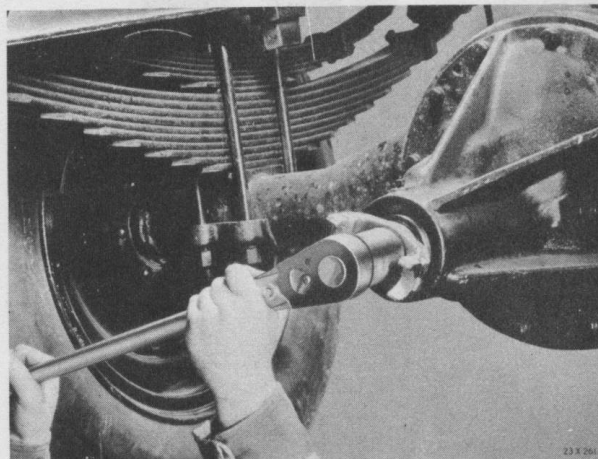
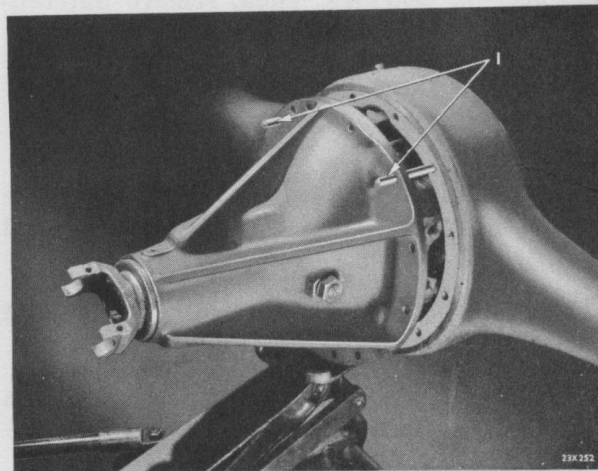

Fig. 34—Removing Drive Pinion Yoke Nut Before
Fig. 35—Removing Differential Carrier Assembly
- (1) Drain differential lubricant.
- (2) Disconnect rear universal joint and drop the propeller shaft.
- (3) If the drive pinion is to be removed, remove the cotter pin and loosen the nut which holds the universal joint companion yoke. See Figure 34.
- (4) Remove both axle shafts.
- (5) Remove cap screws which hold the differential carrier assembly to the axle housing.
- (6) Remove differential carrier assembly, as shown in Figure 35.